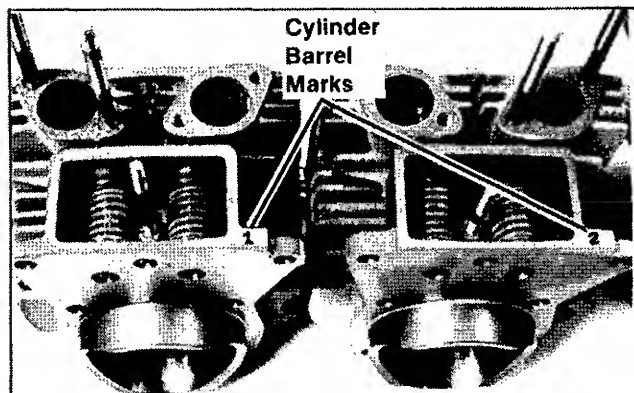

Figure 7-4. Cylinder Barrel Identification
2. Remove the cylinder barrels and barrel gaskets. The cylinder barrels are identified as either #1 or #2 by a mark already stamped into the gasket seating surface of each valve chamber (see Figure 7-4).